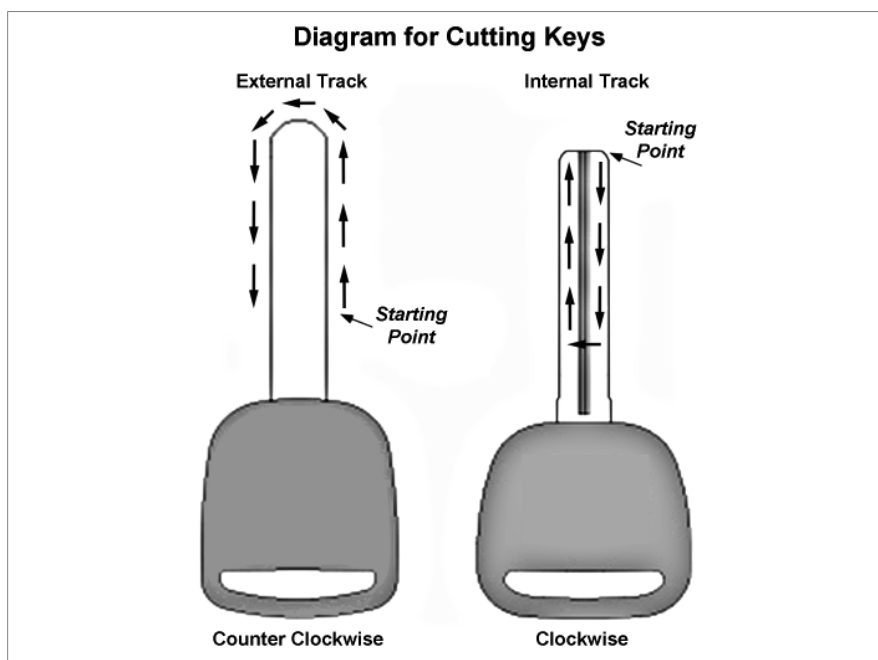

Fig. 15
- 3) Using lever (I) lower the Z-axis until the tracer rests lightly on a CUT portion of the pattern key.
- 4) While maintaining light contact tighten the Z axis locking knob (R) to secure the Z-axis in this position.
- 6) Once the key blank and pattern keys have been properly clamped, press the motor start switch (Q) to activate the cutter motor.
- 7) Determine the starting point for your cut (see Fig. 15).
- 8) Using lever (C), trace the pattern key while moving the cutter into the the key blank.